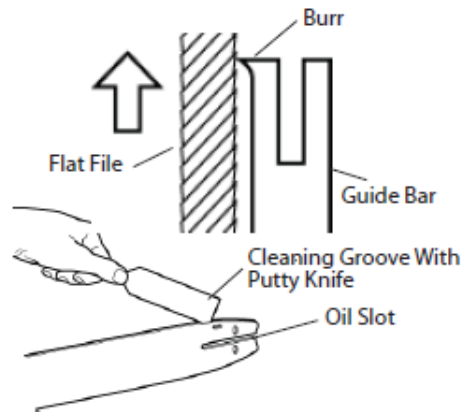

Fig.14
2. Remove sawdust from guide bar groove periodically, using a putty knife or other suitable tool or wire (See Fig.14).